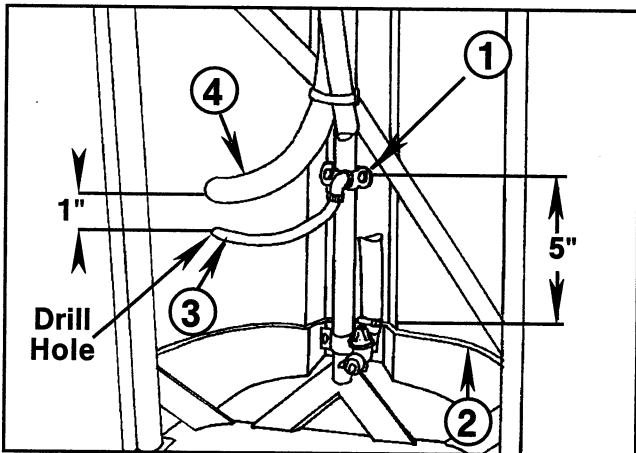

FIG. 13
1. The installation of the Foam Marker with the **ENCLOSED BOOM** on the **MULTI-PRO® 5500** requires that the **5/8"** hole, which must be drilled at the inner end of the Right and Left Boom Pipe, be located on the **bottom** side of the pipe **5" over from the hood opening** as per FIG. 13.
1. The installation of the Foam Marker with the **ENCLOSED BOOM** on the **WORKMAN®** requires that the **9/32"** hole, which must be drilled in the Right and Left Boom Pipe, be located on the **bottom** side of the tube **5" over from the hood opening** as per FIG. 13.